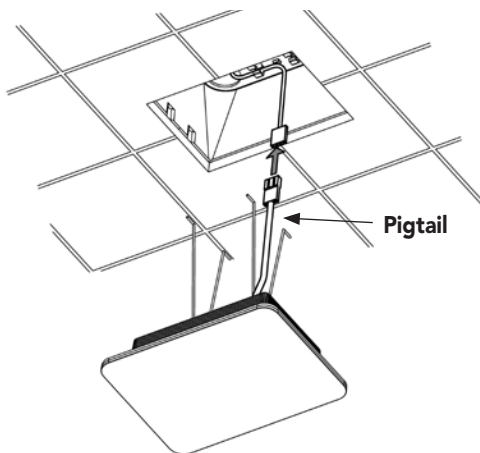

Figure 11
1. Connect the ChromaSteamX fixture's pigtail to the 30-foot LED power cable in the junction box (Figure 11).